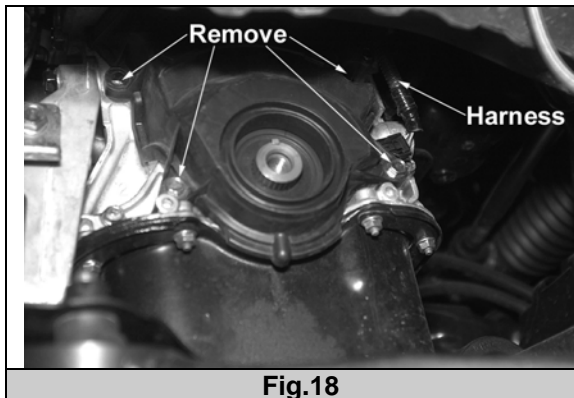

Fig.18
- y) Locate the crank angle sensor harness and remove it from the lower plastic cover. (Fig. 18)
- z) Remove the 4 bolts that hold the lower plastic cover to the engine. (Fig. 18)